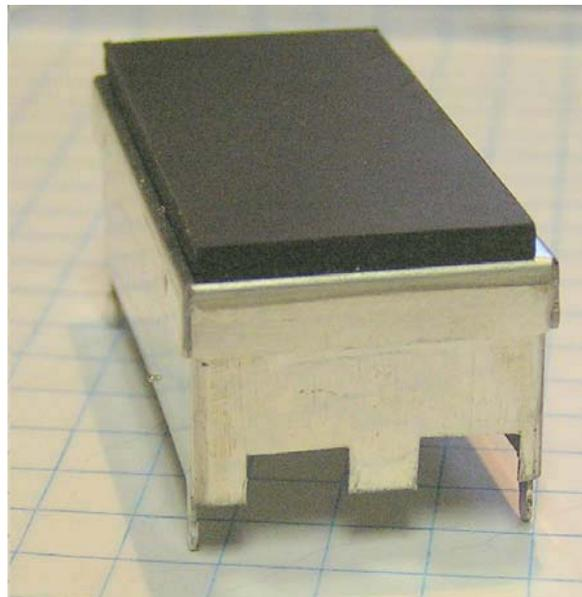

Figure 3. PC board layout showing trace to be cut under the shield.
5. Compare the area that was under the shield can to Figure 3. The trace running across the board near the right edge must be cut as shown. Leave a gap of 1/16 inch in the trace. On either end of this trace, a small amount of green solder mask must be scraped away to allow the coax cables to be connected. Just on the outside of where the shield covers, the coax grounds will be connected. Scrape a small amount of green solder mask from the ground areas there.